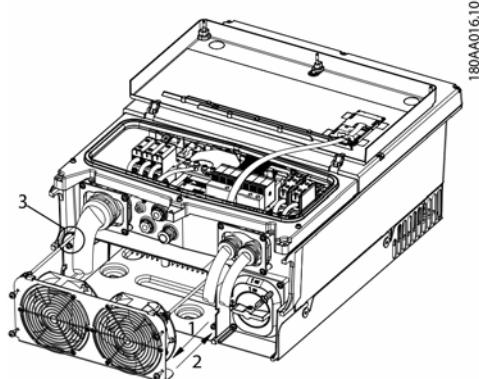

Figure 1.4
5. Take out the fan unit. See (1) and (3) in figure 1.4.
1. Insert the two black cables (one cable on each side) through the opening at the bottom of the inverter. See (3) in figure 1.4.
2. Insert the new fan unit. See (2) in figure 1.4. Lead the cables in the inside of the inverter while pressing the fan unit in the enclosure. Tighten the four screws (2.5 Nm).